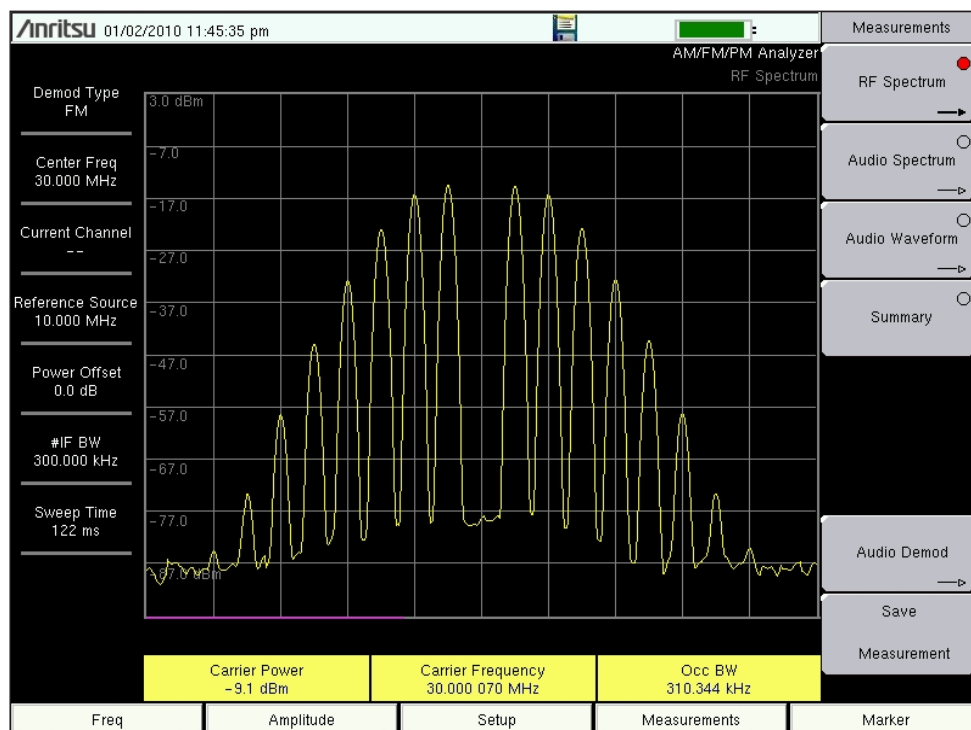
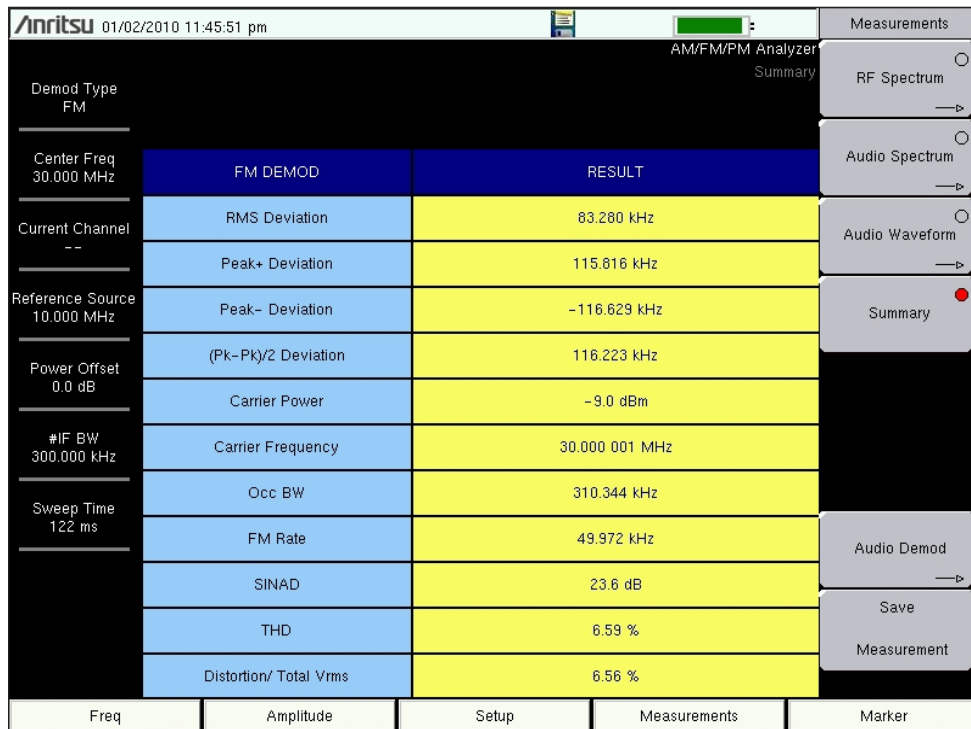

Figure 2. 30 MHz signal with  $F_m = 50$  kHz,  $F_{dev} = 120.24$  kHz.
Figure 3. The MMS summary display screen for the 30 MHz signal in Figure 2 with  $F_m = 50.0$  kHz and  $F_{dev} = 120.24$  kHz.
Figure 2 shows a 30 MHz signal, FM modulated by a 50.0 kHz sinewave. The actual peak FM deviation is 120.24 kHz to produce an 85 dB deep Bessel carrier null. This is the first Bessel carrier null (2.4048  $F_m$ ). The null depth in this spectra is limited to about 70 dB due to the elevated noise floor from internal local oscillator (LO) phase noise. Figure 3 shows the MMS summary display screen of the modulation parameters. As can be seen, the OccBW is 310 kHz and exceeds the 300 kHz IFBW. Thus the poor 23.6 dB SINAD and 6.59% THD.
This can be seen by setting the Carson Rule bandwidth equations for PM and FM (above) equal to each other and solving for  $P_{dev}$ . This relationship is useful for checking PM deviation operation and calibration when only an FM signal generator is available. Using a high-quality FM signal generator and the Bessel null technique, accurate PM operation and calibration checking can be done. As an example, a PM demod test was made of the 30 MHz signal with 50 kHz FM sinewave modulation and 120.24 kHz peak deviation previously shown in Figure 2. The MMS display summary is shown in Figure 12. As can be seen, the PM (Pk-Pk)/2 deviation was measured at 2.45 rad, 1.9% higher than the true 2.4048 rad. The measured PM deviation accuracy was likely impaired by the measured 310 kHz OccBW slightly exceeding the 300 kHz IFBW. Note that the bandwidth estimated by Carson's Rule is 340.48 kHz.